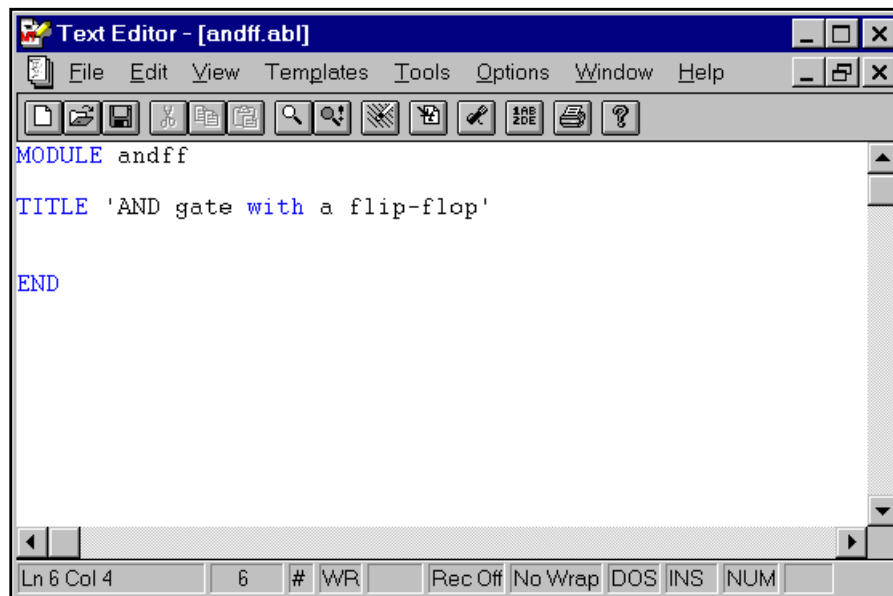

Figure 3-5. Template ABEL-HDL Source File
7. When you have finished entering the information, click the **OK** button. You now have a template ABEL-HDL source file as shown in Figure 3-5.